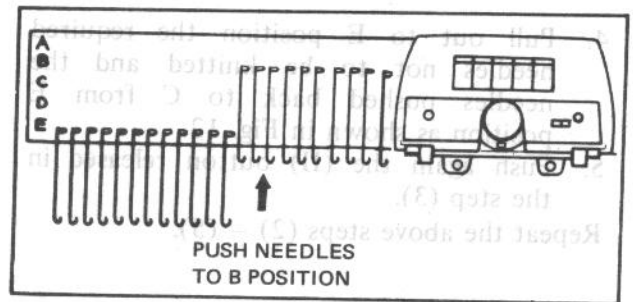

Fig. 17
4. Repeat step (2).
5. Push the needles continuing to knit to B position. (Fig. 17)